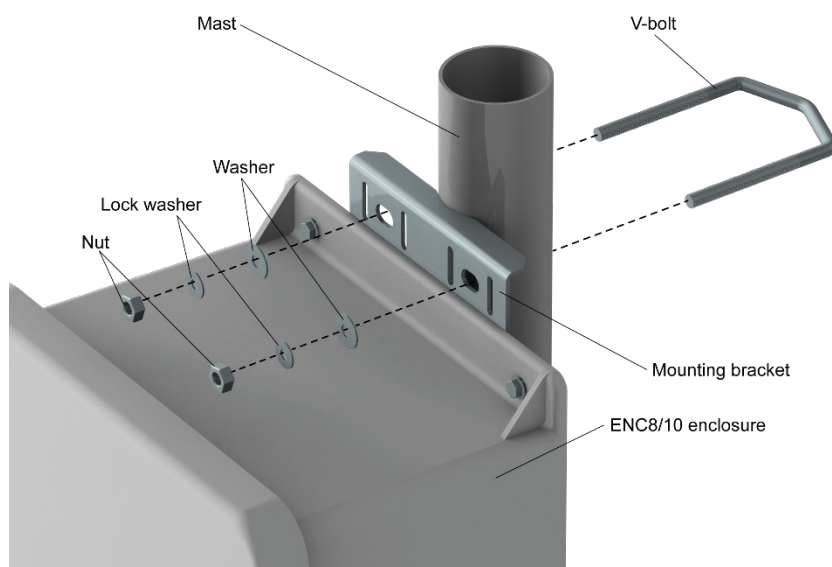

FIGURE 7-5. Mounting the ENC8/10 to a mast
3. Use the furnished V-bolts, nuts, and washers to secure the enclosure to the tripod mast as shown in FIGURE 7-5. The second V-bolt is used at the bottom of the enclosure. FIGURE 4-1 shows the enclosure mounted on a T-post.